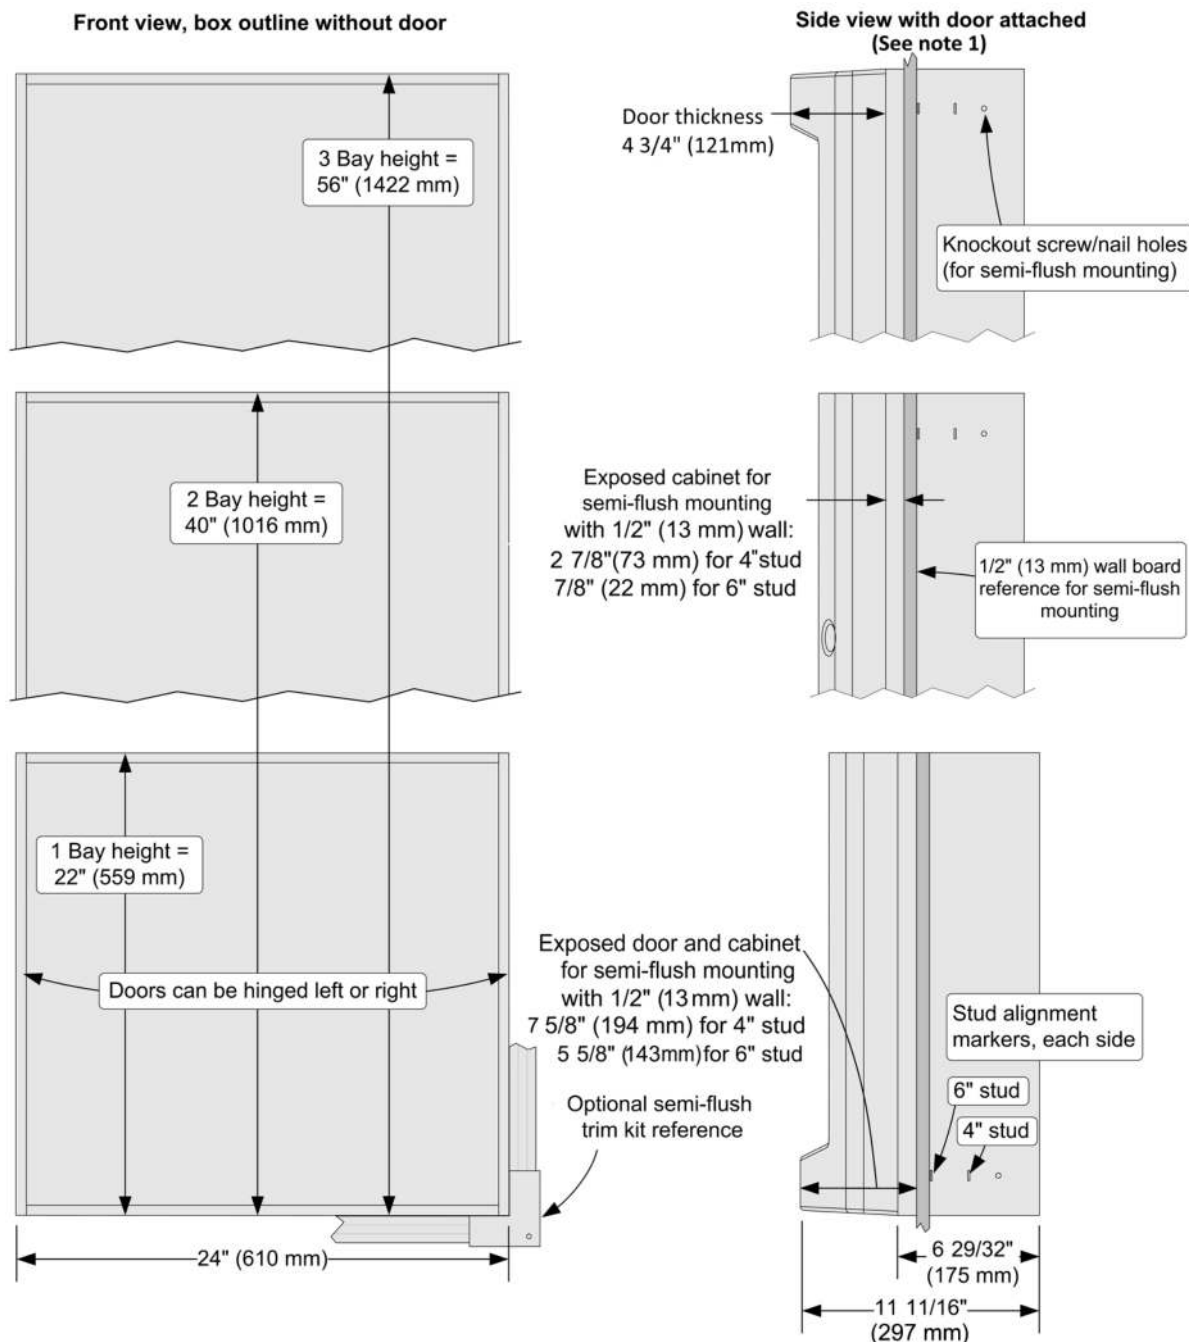

Figure 4: Installation reference
- Figure 4 shows side view dimensions with minimal cabinet and door protrusion from the exterior wall. For 6 in. stud construction with minimum protrusion shown, the door opens 90 degrees. To allow the door to open 180 degrees, the exposed cabinet dimension from the exterior wall must be a minimum of 3 in. (76 mm) for both 4 in. and 6 in. stud construction.